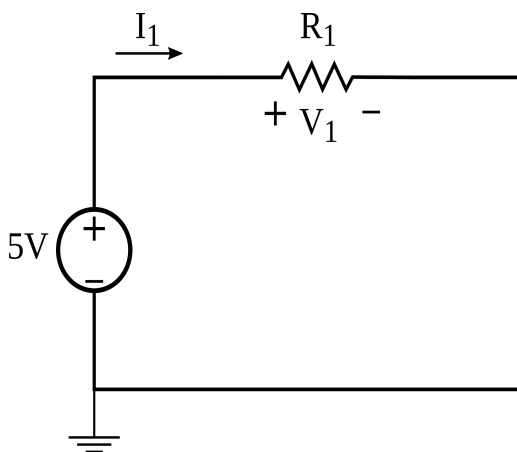

Figure 1
1. Solve the circuits given below (Figure 1, 2, 3, 4, and 5); find all currents and voltage values where $R_1=1\text{ k}\Omega$, $R_2=10\text{ k}\Omega$, $R_3=3.3\text{ k}\Omega$.